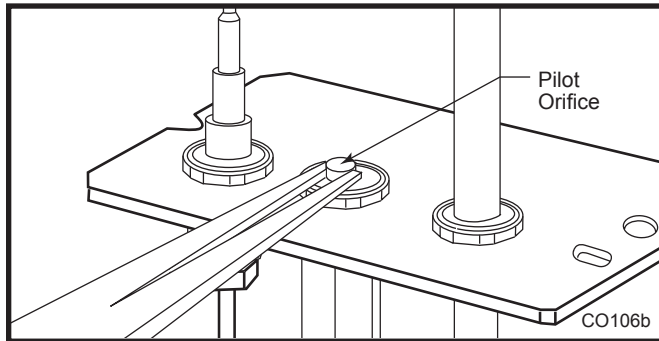

Fig. 61 Remove pilot orifice.
2. Remove injector orifices from left burner leg using 1/2" wrench. (Fig. 61)
- Remove pilot orifice with needlenose pliers. (Fig. 61) **NOTE:** Use a wrench to hold pilot tube in place while removing the orifice.